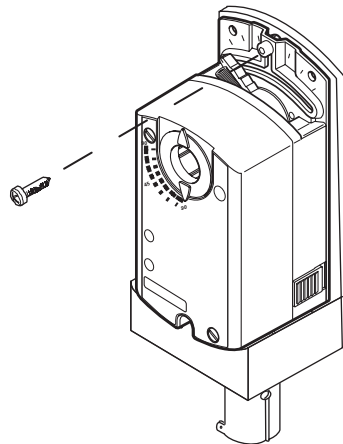

Figure-6 Fastening the Actuator to the Adapter.
5. Fasten the actuator to the adapter with the screw provided, refer to Figure-6.